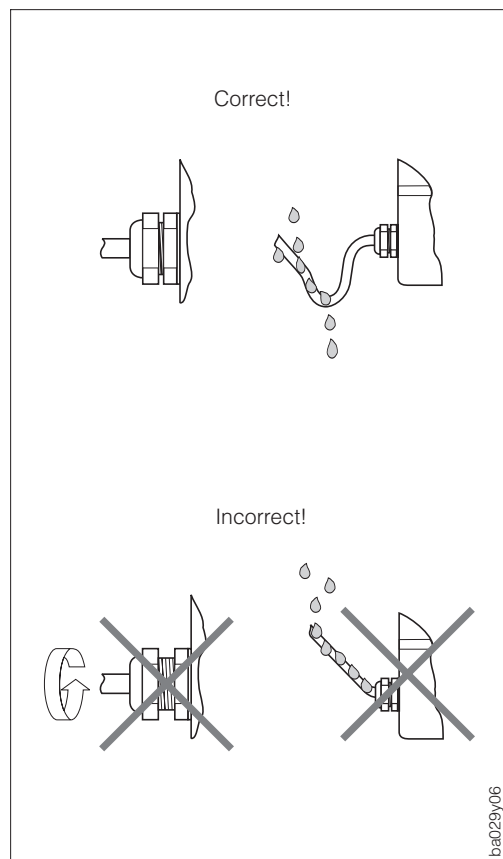

Fig. 20
- The cable gland must be tightened firmly (see Fig. 20).
- The cable must loop down before entering the cable gland to ensure that no moisture can enter it (see Fig. 20).